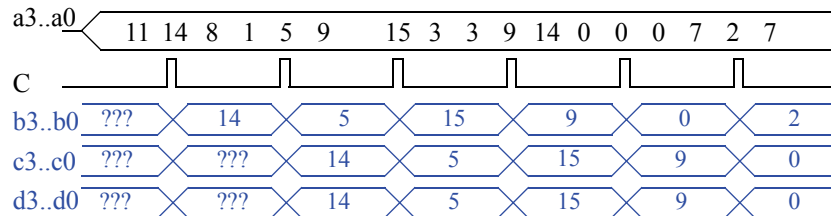

Figure 3.102
- 3.20 Consider three 4-bit registers connected as in Figure 3.101. Assume the initial values in the registers are unknown. Trace the behavior of the registers by completing the timing diagram of Figure 3.102.